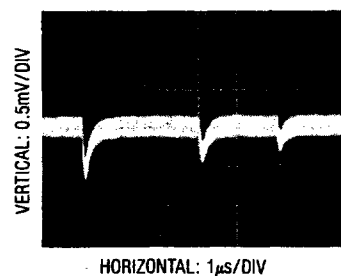

Figure 13. Adequate Reference Settling
2. Transients on the reference inputs caused by the capacitive switching currents must settle completely during each bit test (each CLK cycle). Figures 13 and 14 show examples of both adequate and poor settling. Using a slower CLK will allow more time for the reference to settle. However, even at the maximum CLK rate of 500kHz most references and op amps can be made to settle within the 2μs bit time.